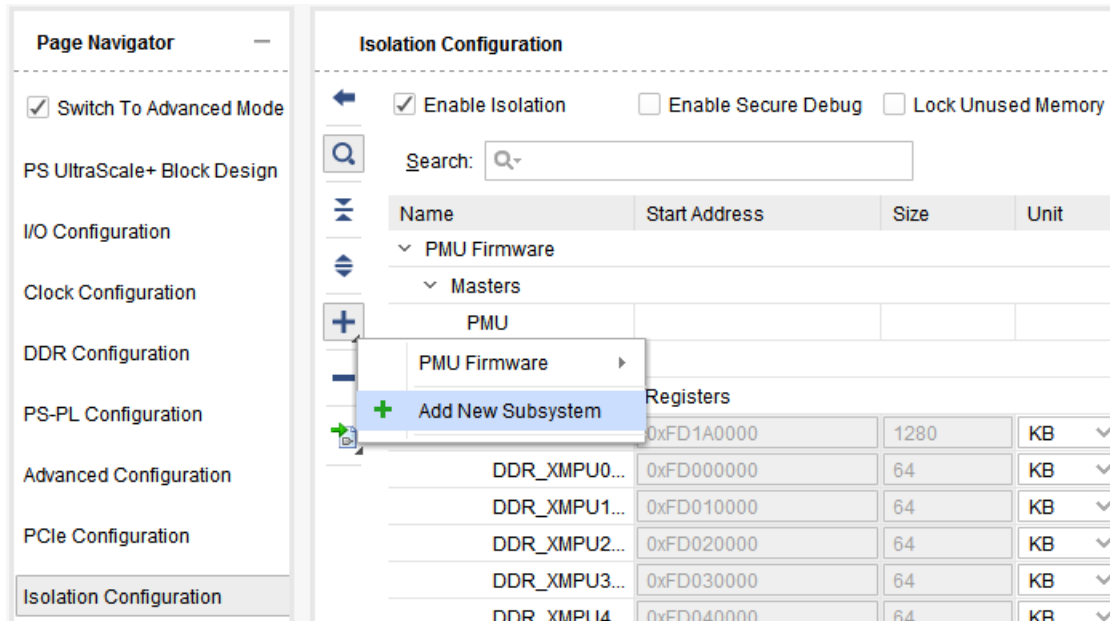

Figure 4-20: Creating a New Subsystem
1. Create a subsystem with any meaningful name using the "+" button as shown in Figure 4-20.
2. To configure Isolation, enable the Isolation feature using **Enable Isolation button** as shown in Figure 4-20.